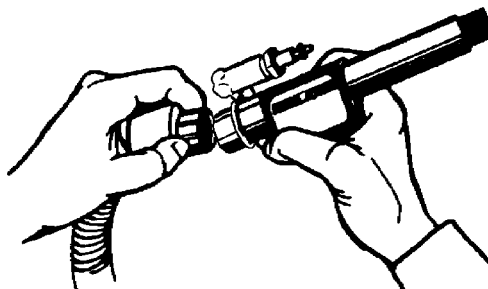

Figure 15
4. Firmly tighten hose connector by hand (see Figure 15).